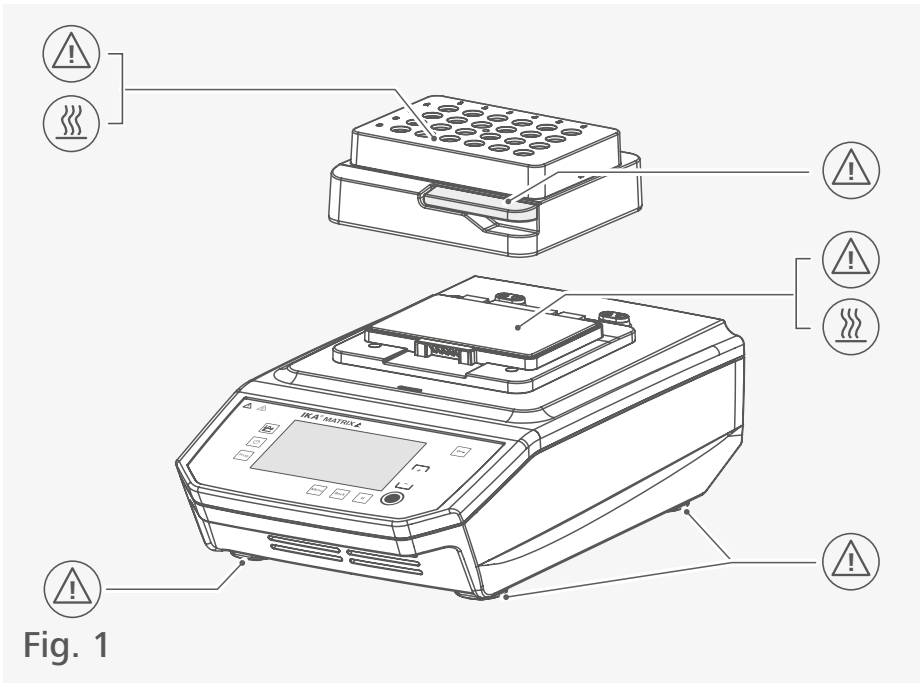
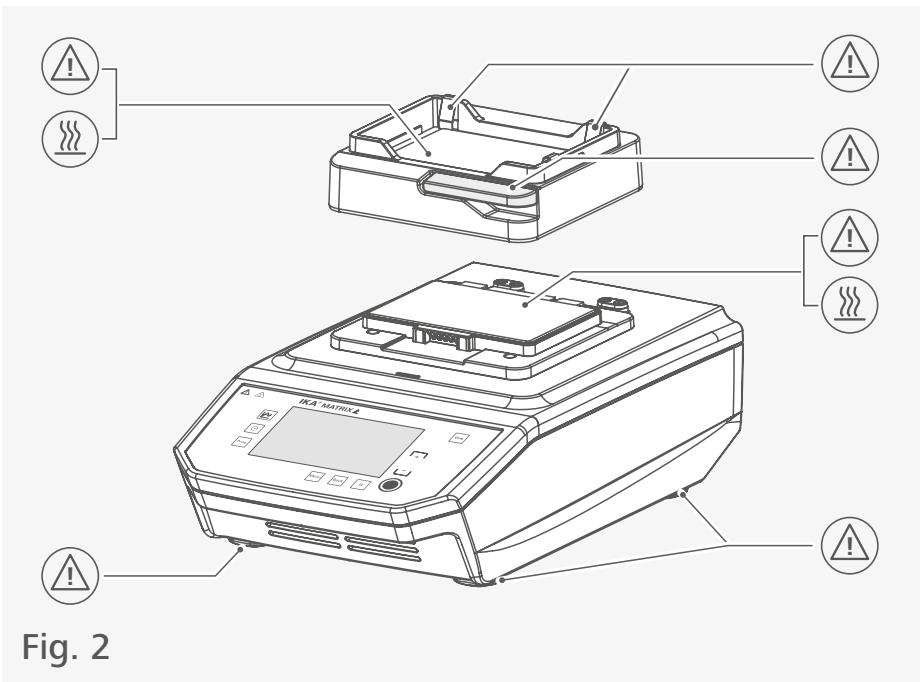

Fig. 1
Fig. 2
- > Pay attention to the marked sites in Fig. 1 and Fig. 2.